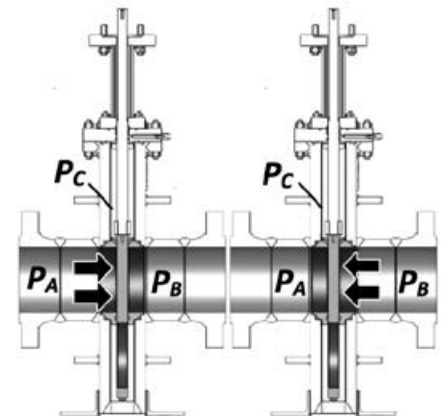

Figure 4: Bi-directional sealing
- Bi-directional, bubble-tight sealing [Figure 4]:**